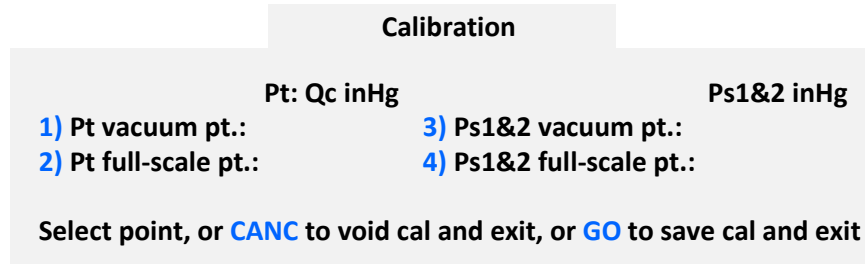

Figure 6.3 : Calibration (Main)
6. Enter '1.6000' followed by **ENTER** on the keypad. The highlighted field will be replaced by '1.6000'. Press **CLR** to return to the point-selection screen (Figure 6.3). You should see '1.6000' on this screen, as the Ps1&2 vacuum point. This indicates to the 6600-NG that the absolute pressure on the Ps1 and Ps2 outputs is currently exactly 1.6000 inHg.
10. Enter '0.0000' (or simply 0) followed by **ENTER** on the keypad. The highlighted field will be replaced by '0.0000'. Press **CLR** to return to the point-selection screen (Figure 6.3). You should see '0.0000' on this screen, as the Pt vacuum point. This indicates to the 6600-NG that the differential pressure on the Pt output is currently exactly 0.0000 inHg.
14. Enter '30.0000' (or simply 30) followed by **ENTER** on the keypad. The highlighted field will be replaced by '30.0000'. Press **CLR** to return to the point-selection screen (Figure 6.3). You should see '30.0000' on this screen, as the Pt full-scale point. This indicates to the 6600-NG that the differential pressure on the Pt output is currently exactly 30.0000 inHg.
18. Enter '38.0000' (or simply 38) followed by **ENTER** on the keypad. The highlighted field will be replaced by '38.0000'. Press **CLR** to return to the point-selection screen (Figure 6.3). You should see '38.0000' on this screen, as the Ps1&2 full-scale point. This indicates to the 6600-NG that the absolute pressure on the Ps1 and Ps2 outputs is currently exactly 38.0000 inHg.
19. The calibration points have now been entered. You should be in the screen shown in Figure 6.3. Press **GO** to save the points and exit this screen. If you press **CANC**, the calibration will be void. When GO is pressed, the screen will appear similar to the one shown below.